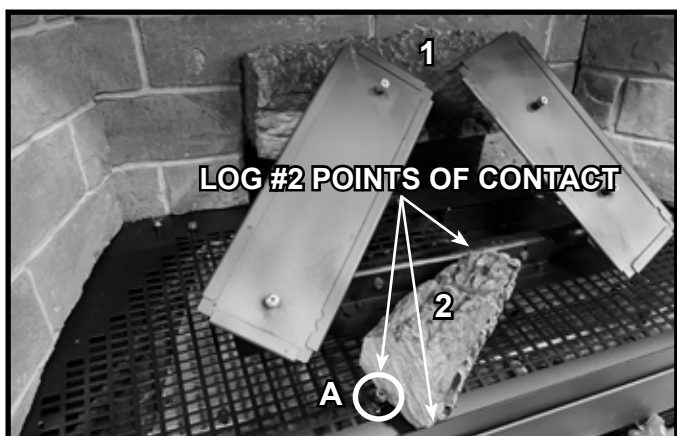

Figure 4 Log #2 Installed
**LOG #2:** Position the wide end of Log #2 against Log pin A and the media lip. Rotate the narrow end of the log counterclockwise until it contacts the burner bracket. The three points of contact are noted in Figure 4.